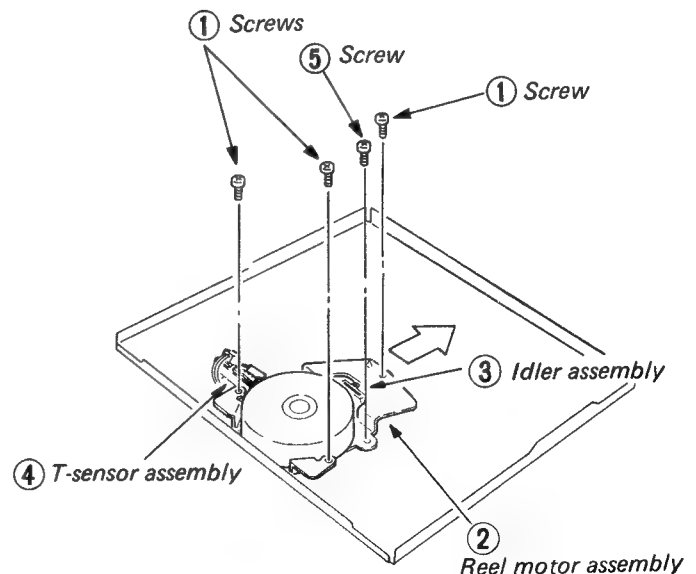

Fig. 1-3-36 Removal of reel motor assembly
1) Removal of reel motor assembly (Fig. 1-3-36)
Read the right torque meter and adjust R651 so that the PLAY take-up torque of 80 ± 10 g-cm is obtained. If above value is not obtained, replace the reel motor assembly or idler assembly. (Refer to item 1-3-12, and Figs. 1-3-36 through 1-3-40)